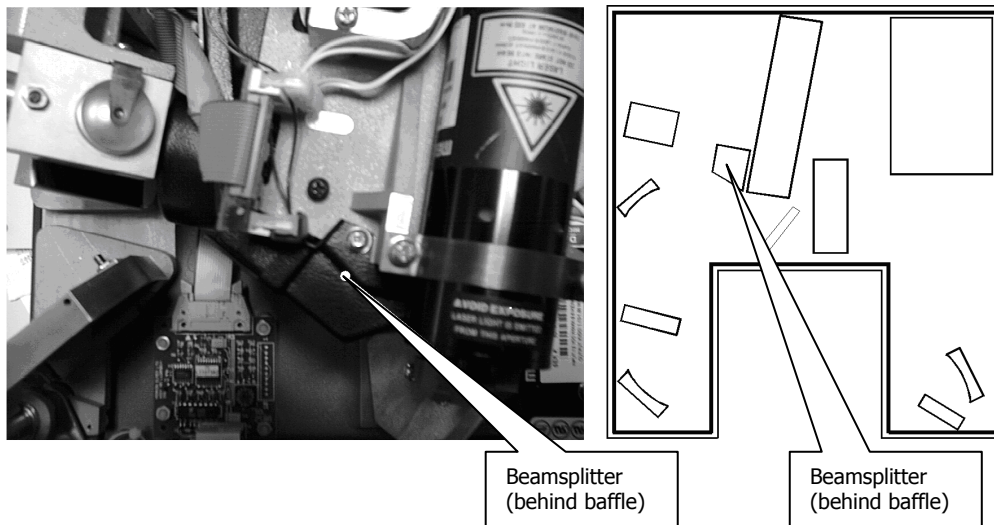

Figure 36 Beamsplitter location
1. Open the main cover of the instrument, as detailed on page 84 and identify the Beamsplitter, which is behind the laser baffle (Figure 36).